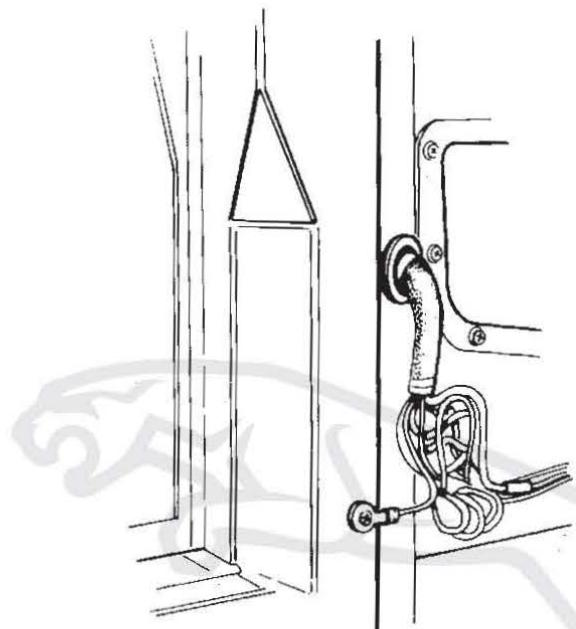

FIG. 1
2. Remove the passenger side 'A' post lower trim panel to expose the lower bulkhead/door harness (See Fig. 1). Passenger side RHD is shown, LHD is symmetrically opposite.